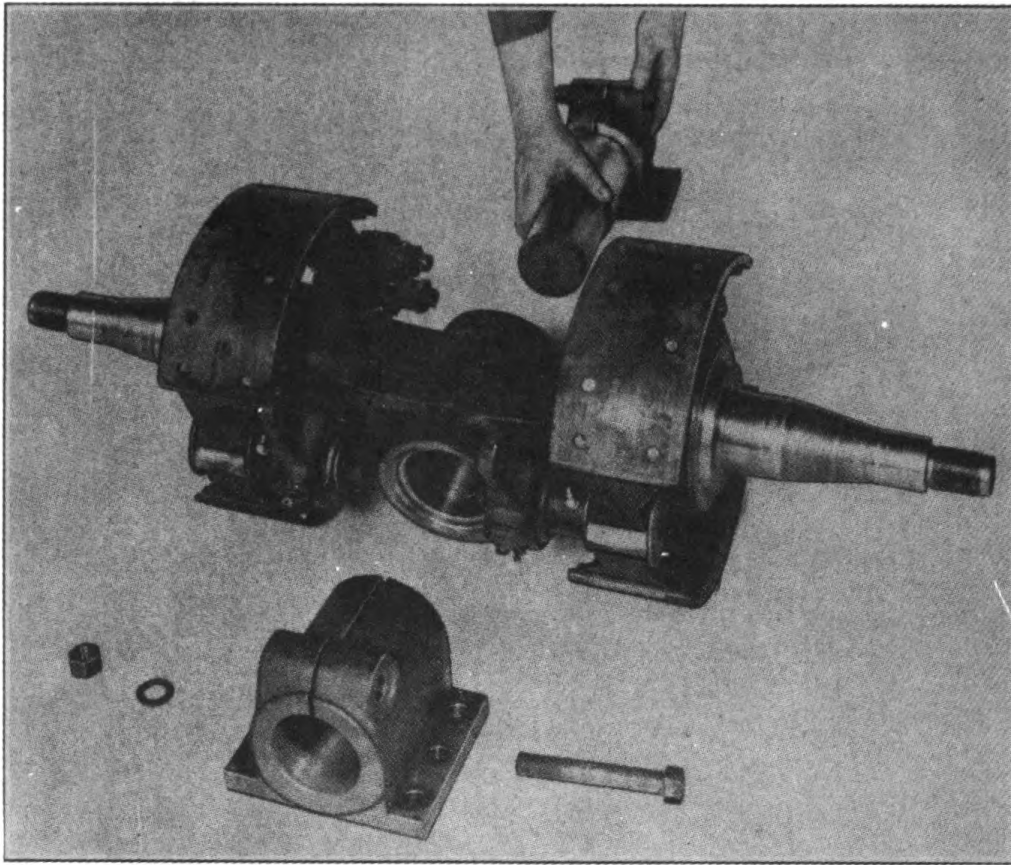

FIGURE 13. REMOVING TRUNNION SHAFT
d. Pull the trunnion axle shaft out of trunnion axle as illustrated in Figure 13. Remove the trunnion bracket as instructed in subparagraph c.